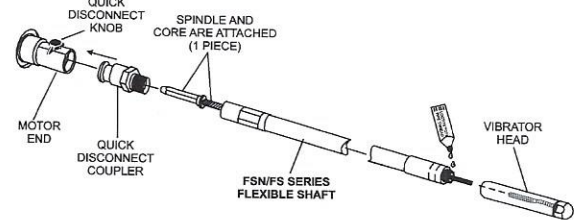

Figure 4. Attaching Vibrating Head to Flexshaft
1. Locate appropriate coupler and spindle for desired flex-shaft. See Figure 4.
2. Apply a ring of anaerobic sealant (Loctite™ No. 271) to flexshaft threads as shown in Figure 4.
3. Insert coupler and spindle into flexshaft as shown in Figure 4.
4. Attach vibrator head to flexshaft as shown in Figure 4.